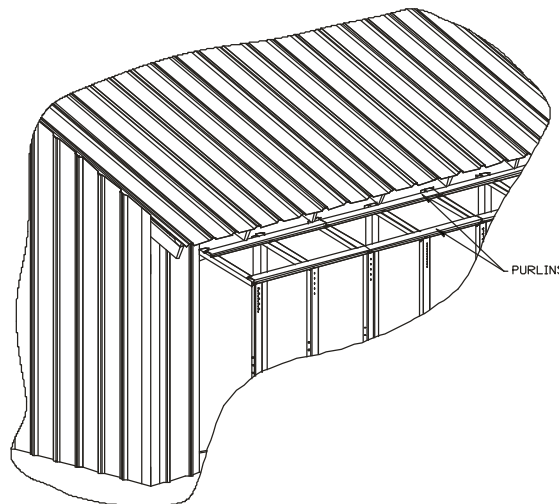

Figure 6
7. Install the purlins as shown in Figure 6 using the 1/4 x 5/8 screws provided.